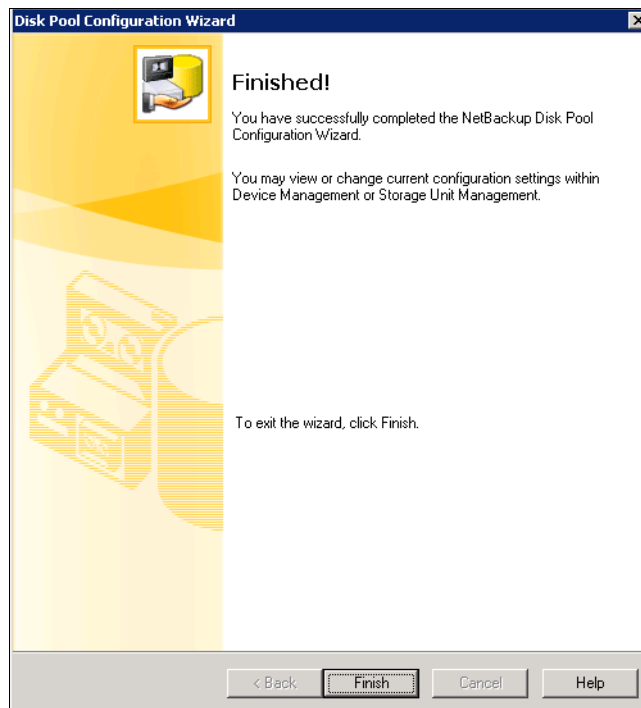

Figure 9-33 Create storage unit procedure completed
3. Complete the storage unit creation (Figure 9-33).